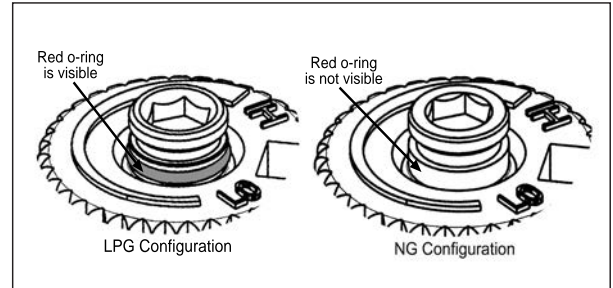

Figure 17: O-ring on valve screw.
f) Verify that if the conversion is from NG to LPG, the screw must be re-assembled with the red o-ring visible (refer to Figure 17). If the conversion is from LPG to NG, the red o-ring of the screw must be not visible.